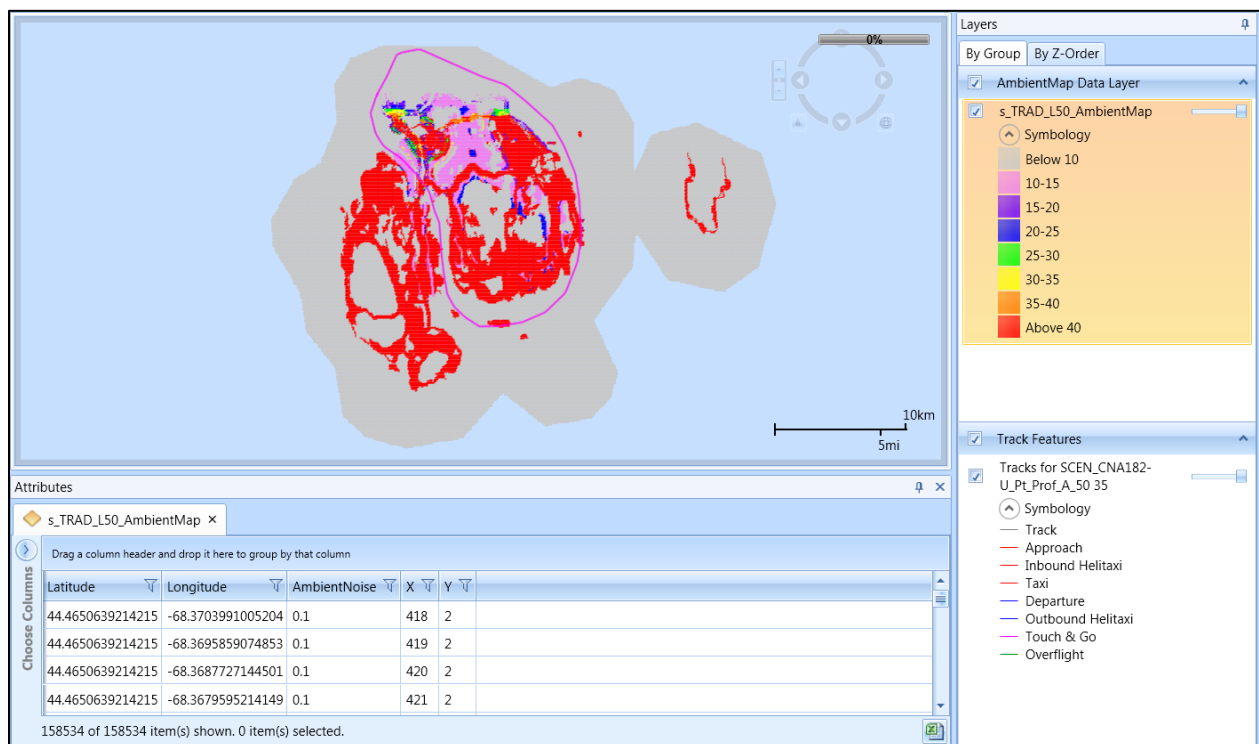

Figure 5-48 Sample Ambient Map Layer with Attributes – Shown with Tracks
3. The ambient map layer is displayed on the map (Figure 5-48) and in the *Layers* manager.
The following attributes are available for Time Audible Ambient Map Layer: latitude, longitude, ambient noise level, and x and y coordinates (Figure 5-48). See Appendix B.3 for descriptions of the attributes.